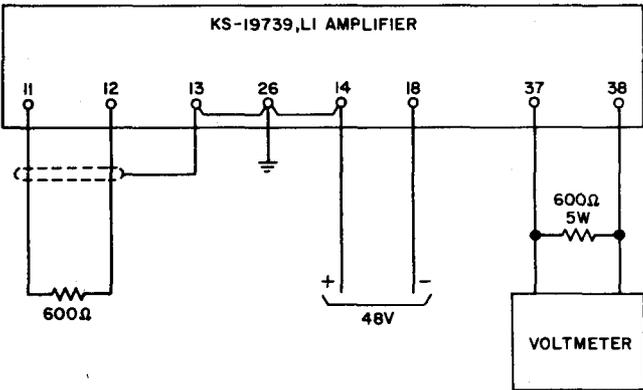

Fig. 3—Test Setup for Noise Test
8.01 The test setup for this test is shown in Fig. 3. The amplifier should be grounded
- 1 Terminate the amplifier with the 600-ohm, 5-watt resistor and the model 400 voltmeter connected across terminals 37 and 38 of TB1. See Fig. 3.